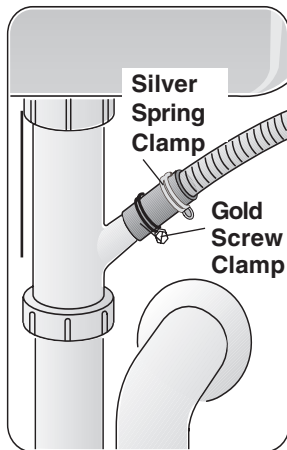

Figure 23
- 1 Directly to the under-sink dishwasher drain connection, as shown in **Figure 23**.